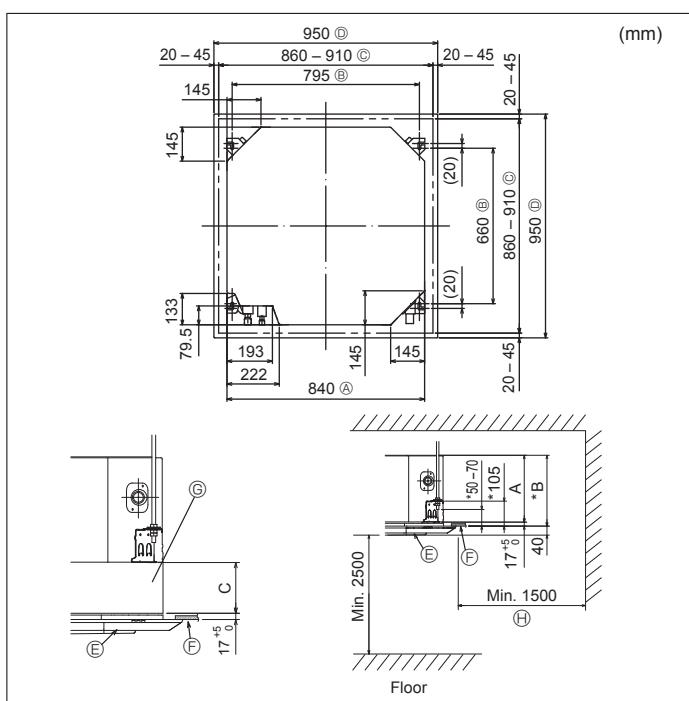

Fig. 3-2
#### 3.2. Ceiling openings and suspension bolt installation locations (Fig. 3-2)
- The dimensions of ceiling opening can be regulated within the range shown in Fig. 3-2; so center the main unit against the opening of ceiling, ensuring that the respective opposite sides on all sides of the clearance between them becomes identical.